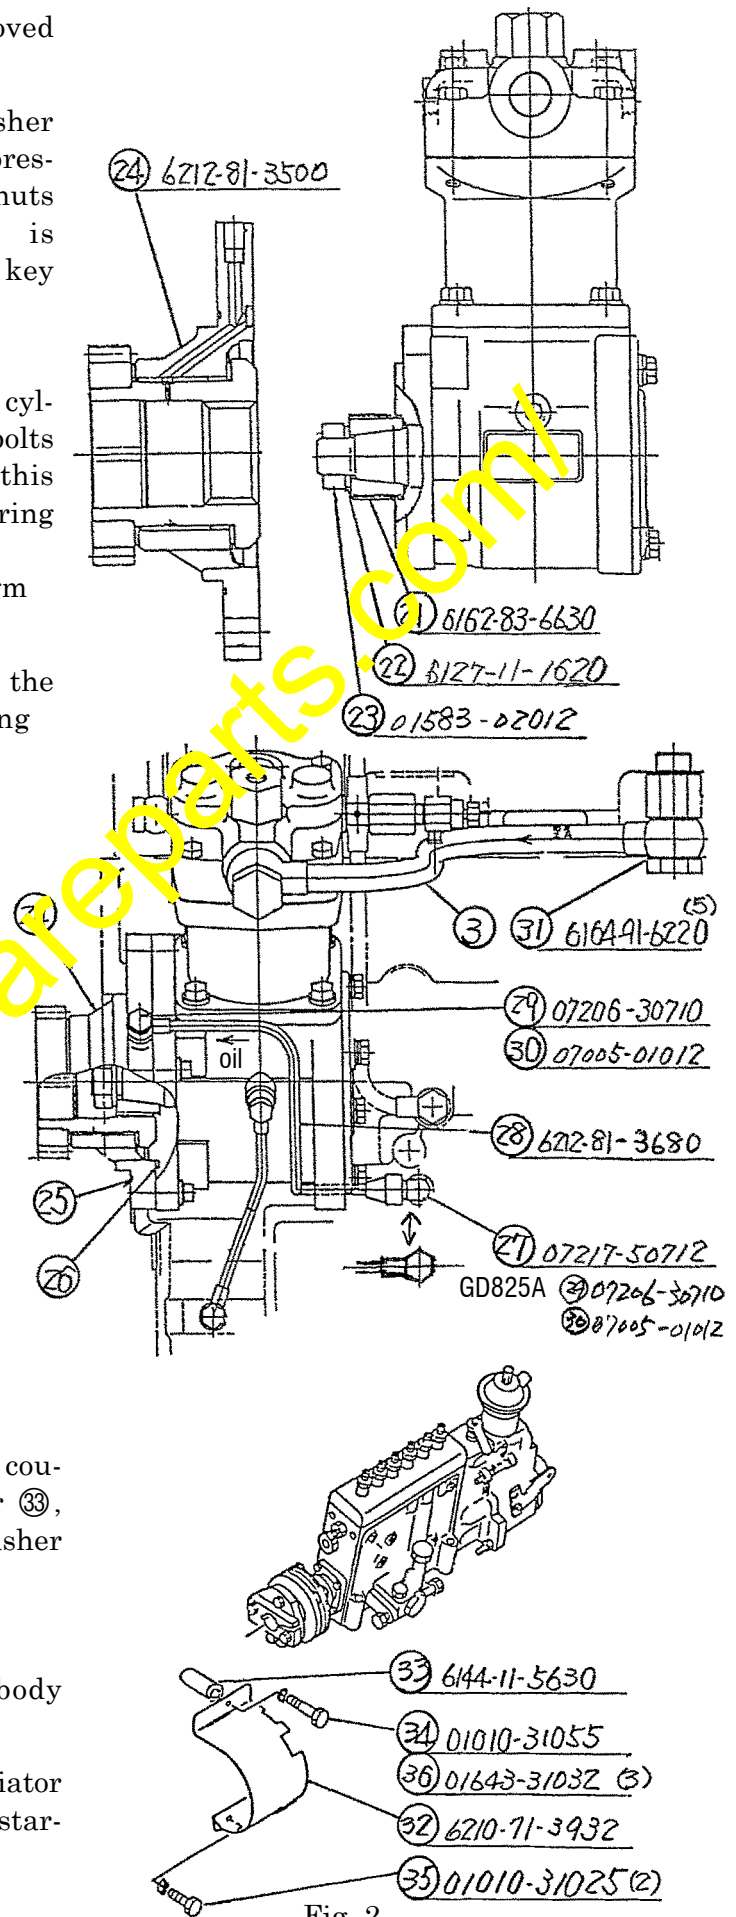

Fig. 2
3) Installation procedure of the improved parts (Refer to Fig. 2.)